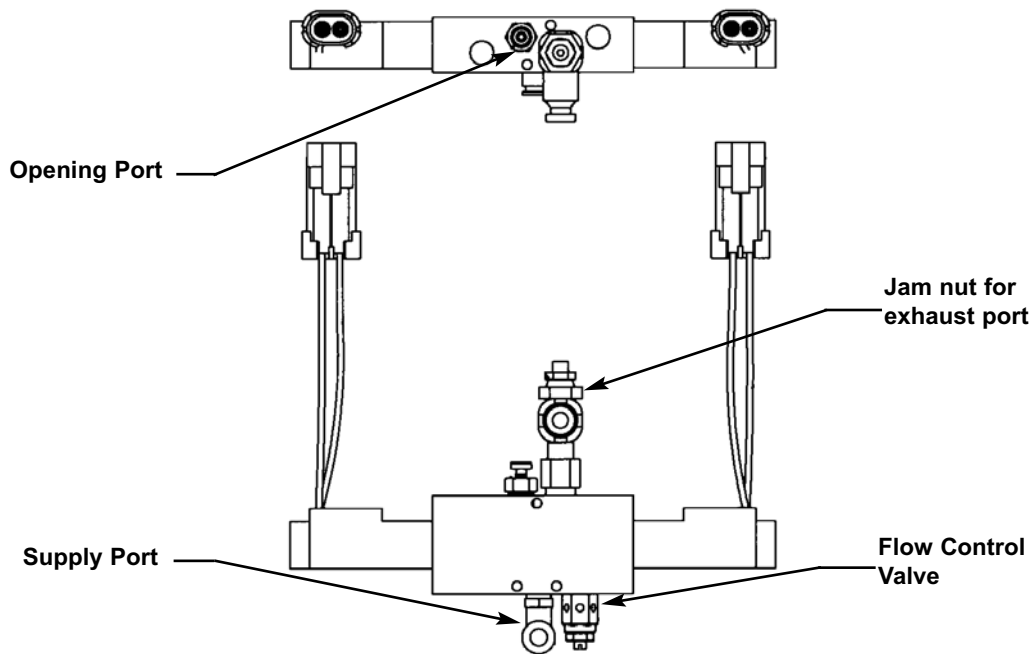

Figure 14
- Adjust Flow Control to meet 3-4 second open time and closing time of door. **Figure 14**